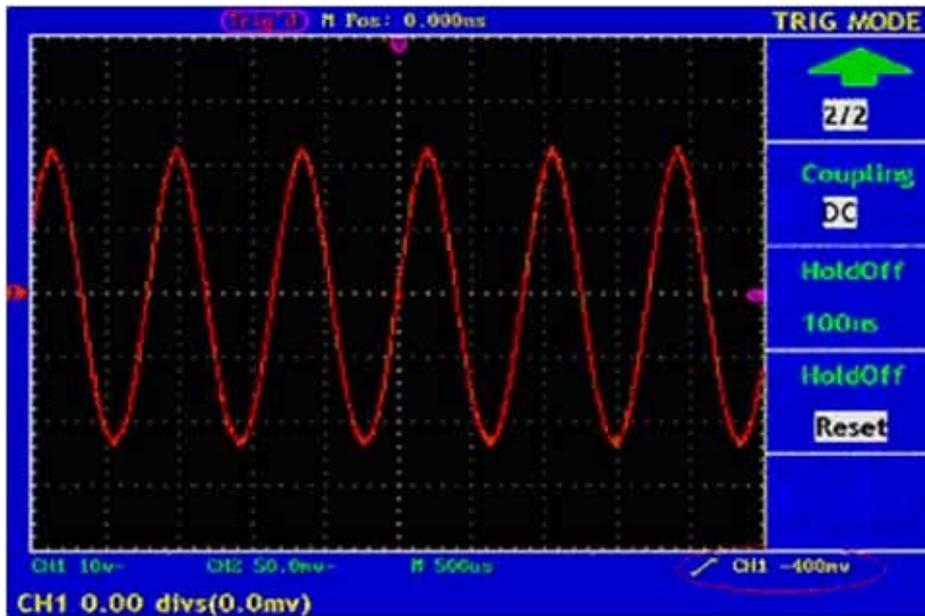

Fig. 28 Wave Form Triggered on the Rising Edge
7. Press the **F2** menu selection button and choose DC for Coupling. The display in the screen is as Fig. 28.